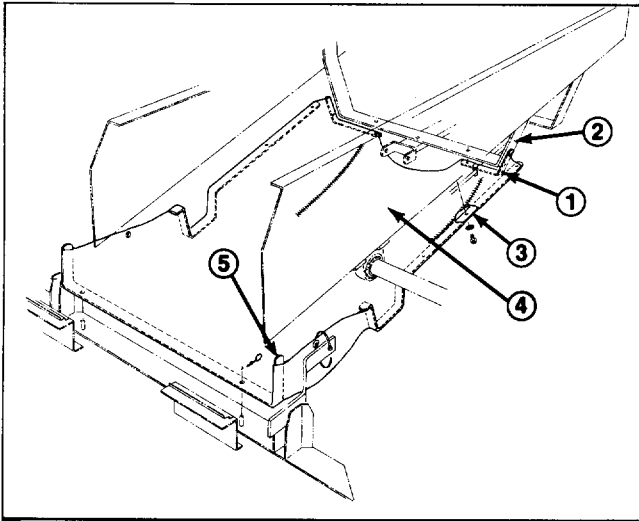

Figure 5
1. Position a shield bracket on each side of engine mount, aligning edge of bracket with front edge on engine mount (Fig. 5). Using each bracket as a template, locate, mark and drill (2) .238" dia. holes in each side of engine mount.
2. Position a side support on bottom of each frame rail as shown in Fig. 5. Bend in side support to be centered under axle. Using side support as a template, locate, mark and drill (3) .238" dia. holes in left frame rail and (2) holes in right frame rail. **DO NOT DRILL A FRONT MOUNTING HOLE IN RIGHT FRAME RAIL.**
3. Slide shield brackets, side supports and deck support through seams in shield as shown in Fig. 5. Access zipper tabs to be positioned to the outside.
4. Using a punch or other similar pointed device, poke holes through shield material at all holes locations. Mount shield to each frame rail and both sides of engine mount with (9) self tapping screws and lockwashers (Fig. 5 & 6).